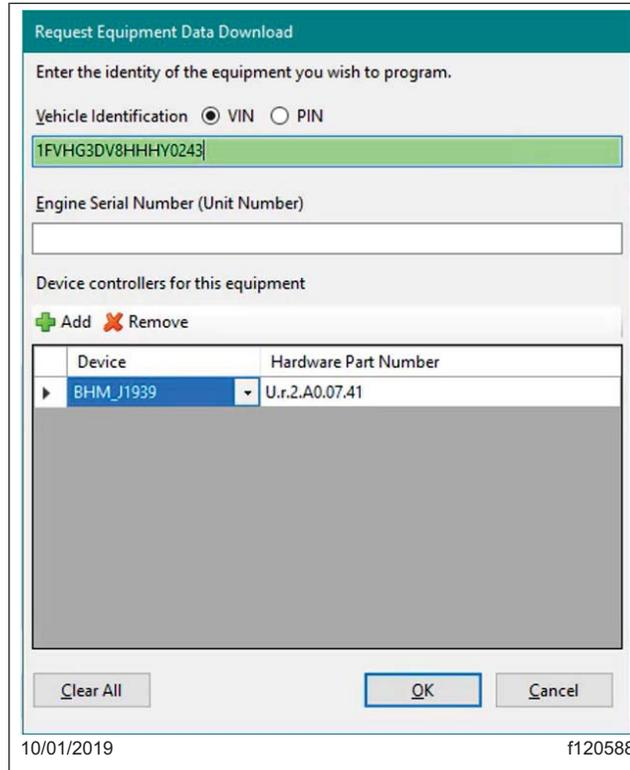

Fig. 3, Equipment Data Download Screen
7. Click Add. The "Request Equipment Data Download" form will appear. See Fig. 3.